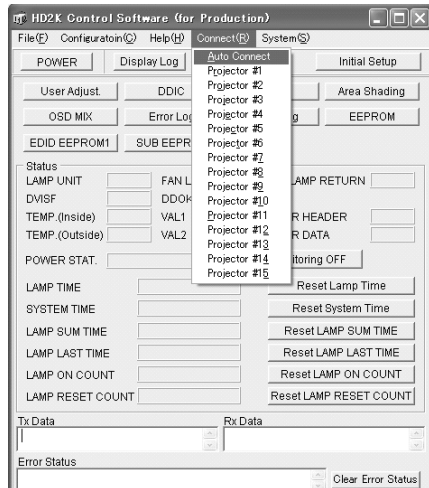

Fig.1
- (1) Connect the Phase Deviation Measurement circuit at CN005 with the Projector turned off. Connect the FPC to a desired color.
- (2) Connect the PC and Projector with a RS232C cable. Turn the projector ON and boot the SPA software.
- (3) Click [Connect] on the menu bar and select [Auto Connect] in the pull-down menu. Refer to Fig.1. (If [Connection failed] is shown, the connection is FAILED. If no message appears, the connection is completed and the result is PASSED)